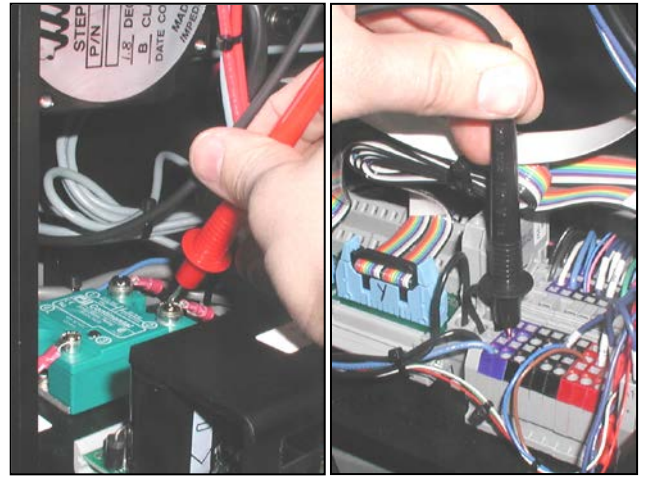

Figure 3-62. Testing pin 2 of Solid State Relay
2. Set your DVOM to test for continuity. With the Black probe, contact the Blue terminal block in the electrical area, with the Red probe, contact pin 2 of the Solid State Relay. (Figure 3-62) Your DVOM should indicate continuity. If it does not, check the transformer wiring. If the wiring is correct, the transformer is defective and will require replacement.